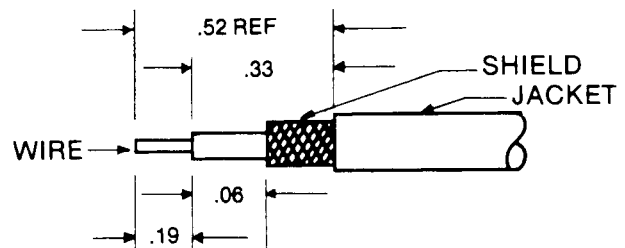

Figure 4
- Prepare cable for BNC connector by stripping adequate amount of insulation from outer shield and center conductor. See Figure 4.